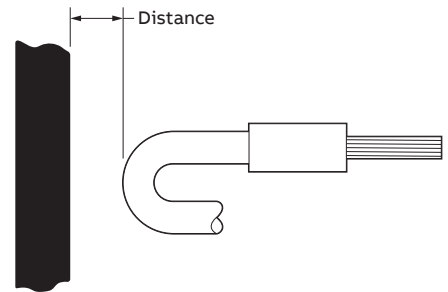

Figure 3
- d. Check wire bending space from connector to inside surface of equipment or nearest obstruction (Figure 3). The Bi-Pin connector, with mating insulating cover, must not reduce the minimum wire bending space.